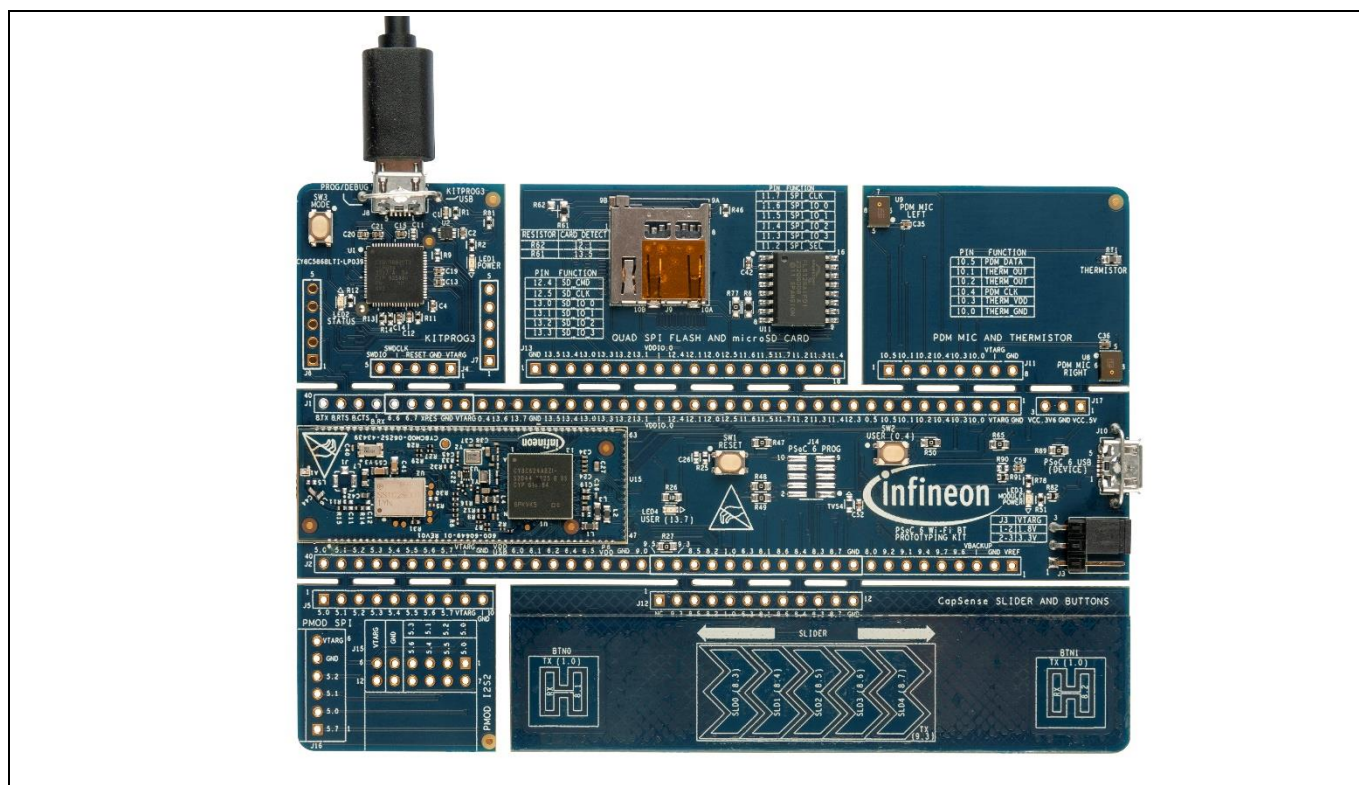

Figure 6 Connect USB cable to USB connector on the board
1. Connect the board to the PC using the provided USB cable through the KitProg3 USB connector, as shown in Figure 6. It enumerates as a USB Composite Device if you are connecting it to your PC for the first time.